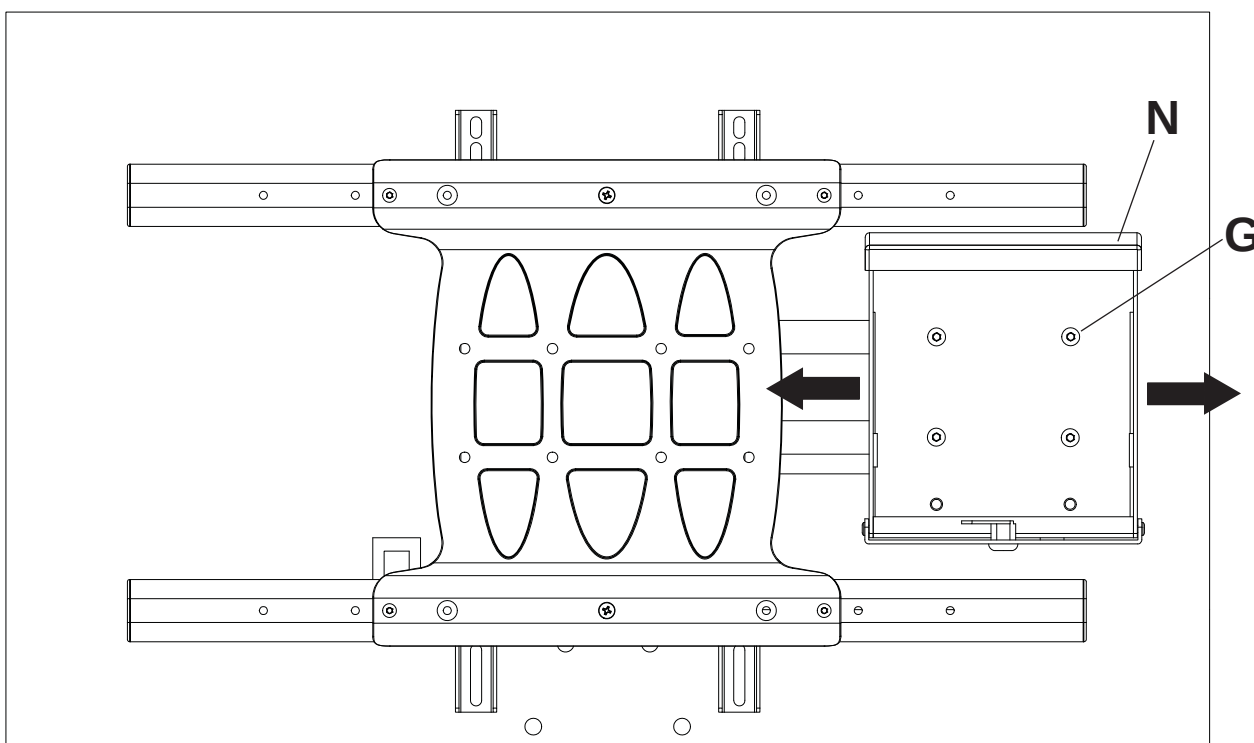

fig. 6.8
Adjust the position of the enclosure (A) to your desired location as shown in fig. 6.8. Once in position, tighten the four 1/4-20 x 1/2 socket head screws (G) shown in fig. 6.8 using 4mm allen wrench (L) and a 7/16" open end wrench.